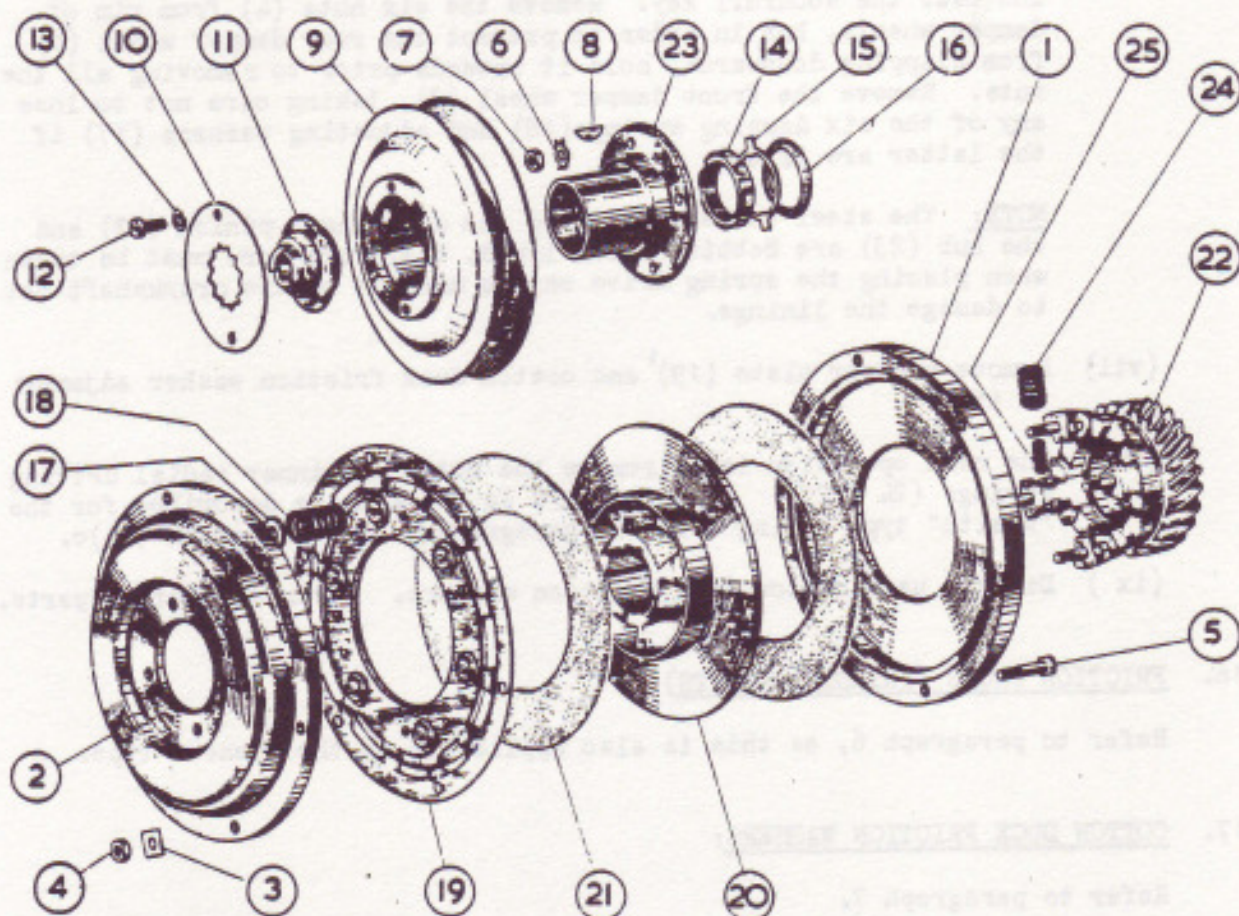

FIG. 29. EXPLODED VIEW - SPRING DRIVE ("BENCH" TYPE).
Crankshaft Pinion Assembly (22 Fig.29), Rear Damper Wheel (1), Friction Drum (20), Spring Plate (19), Front Damper Wheel (2) and Hub (23).